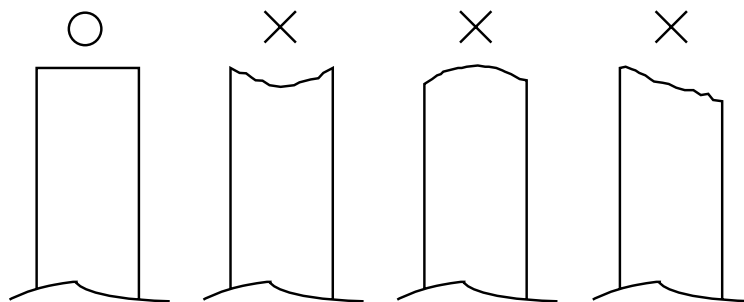

Figure 3-3 Shape of paper edge
1. Cut the edge of the paper as shown in Figure 3-3.